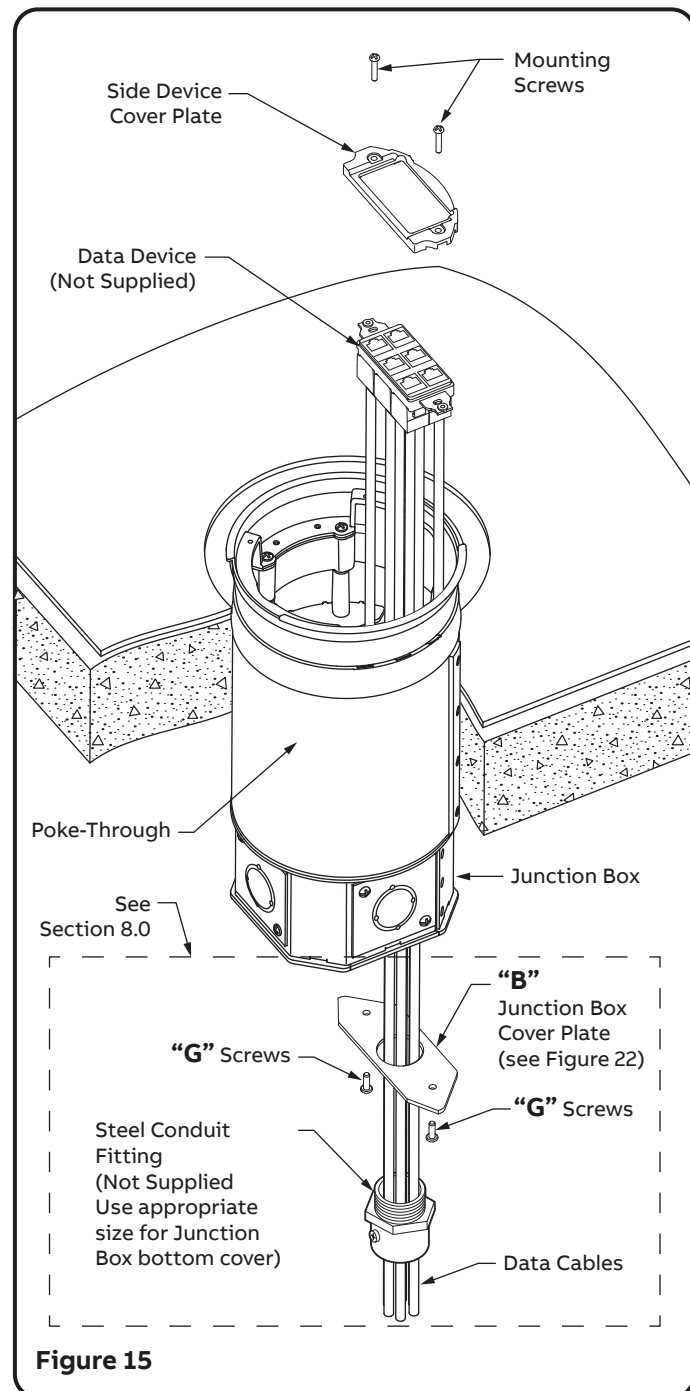

Figure 15
7.3 Pull data cable through steel conduit fitting, hole in bottom Junction Box Cover Plate and into Junction Box. Route Data Cables up through selected Gang to connect to Data Plate. Data Jacks may already be terminated prior to routing through Poke-Through. Junction Box cover plate may be loose from Junction Box when routing cable. (See Figure 15).
7.5 Secure Data Plate(s) to Poke-Through. Use screws furnished with Data Mounting Plate. Screws must pass through holes in Cover Plates, holes in Data Mounting Plate and thread into tapped holes in Device Mounting Plate. (See Figure 15 and 16).